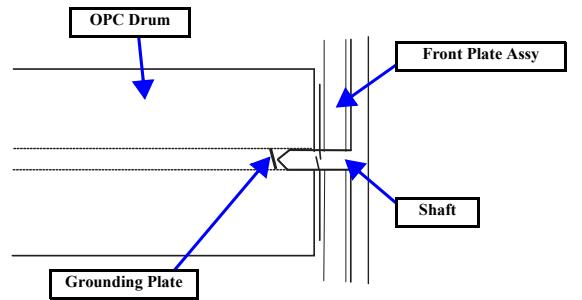

Figure 2-15. Grounding of OPC drum
The grounding contact of the photoconductor is located in its front inside and always in contact with the shaft of the front plate of the print unit. When the print unit is installed in the printer body, the setting pin of the print unit front plate comes in contact with the front plate of the printer body to achieve grounding. Thus, the electric charge on the photoconductor in the area exposed to light is grounded through the grounding plate, the shaft and the setting pin to the frame. (See "Figure 2-15")
- For fusing, this printer uses the heat roller fusing system. The sheet with toner on passes between the heat roller, which is heated up by the fusing heater lamp, and the pressure roller. During this passage, heat and pressure are applied to permanently fuse the toner to the paper. (See "Figure 2-15")
- The MP Tray Empty Sensor, mounted at the top of the MP Tray, detects paper in the MP Tray. (See "Figure 2-15")